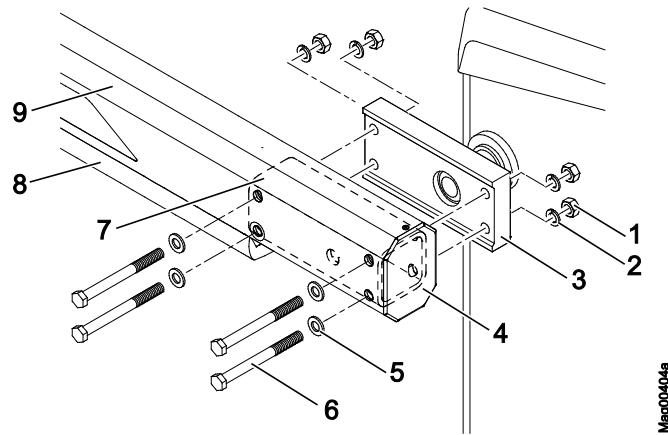

Fig. 36: Remove barrier boom
19. Install the barrier boom with two persons with the horizontal flange. → See page 79, Fig. 36.